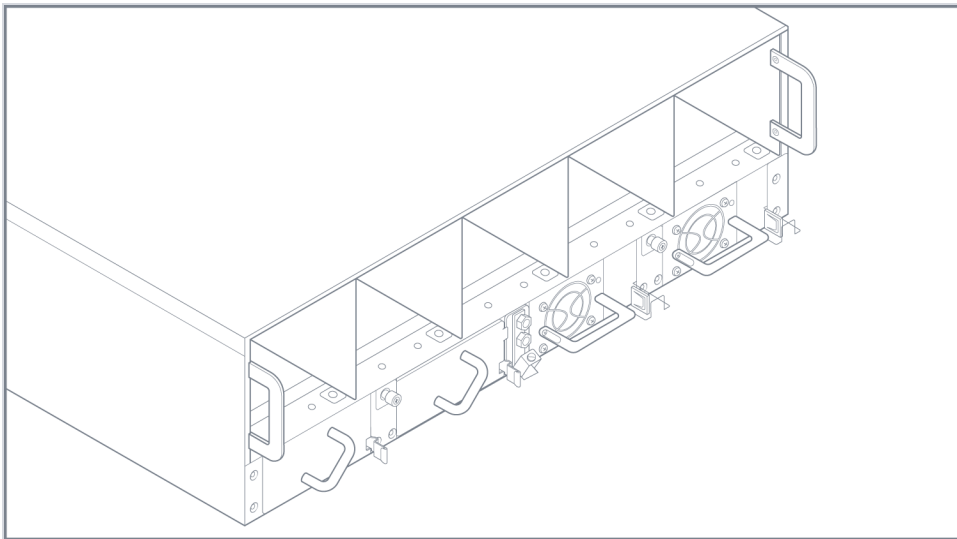

Figure 13: Fan Tray Inserted
3. Slide the fan tray in until it is flush with the chassis rear and will not slide in any further as shown in Figure 13: Fan Tray Inserted on page 81.